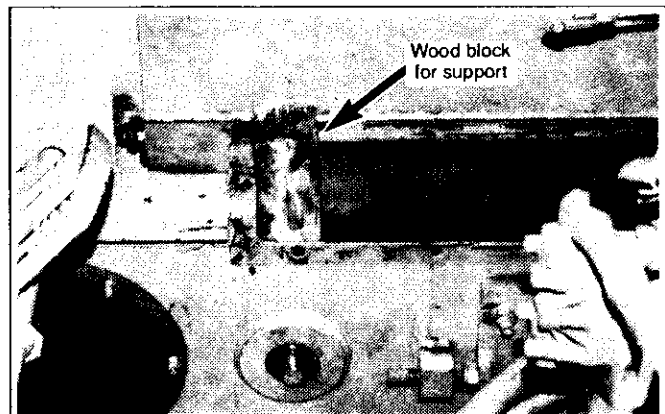

Figure 6-18
2. Wedge two (2) 3/4 inch (19 mm) wood blocks between the cluster sprocket and inner chain case wall to prevent sprocket and shims from shifting when installing bearing spindle shaft. (See figure 6-18)